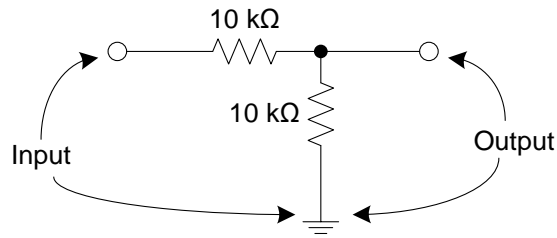

Figure 5. A simple voltage divider circuit.
2.1 Connect the voltage divider circuit as given in Figure 5. on the breadboard. Leave the jumper wires for connecting input and output signals.